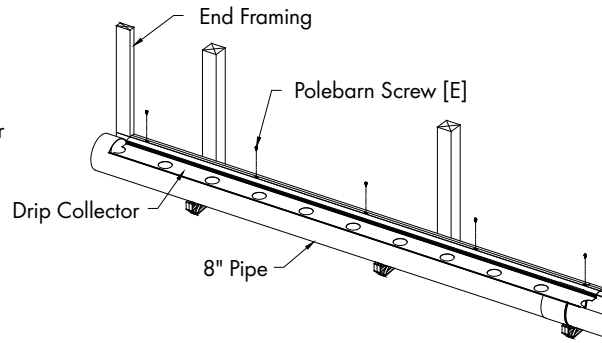

Figure 6B
Once Drip Collector is snapped into the 8" Pipe make sure Drip Collector and pipe is level and the flange is resting on top of 2x10 and Drip Collector is pushed up against the End Framing leaving a 1/4" gap between the end of the Drip Collector and the cut end of the 8" Pipe, then secure in place using (5) 1" Polebarn Screws [E]. See Figure 6B and 6C. Repeat for the remaining Drip Collectors, butting them up to one another.